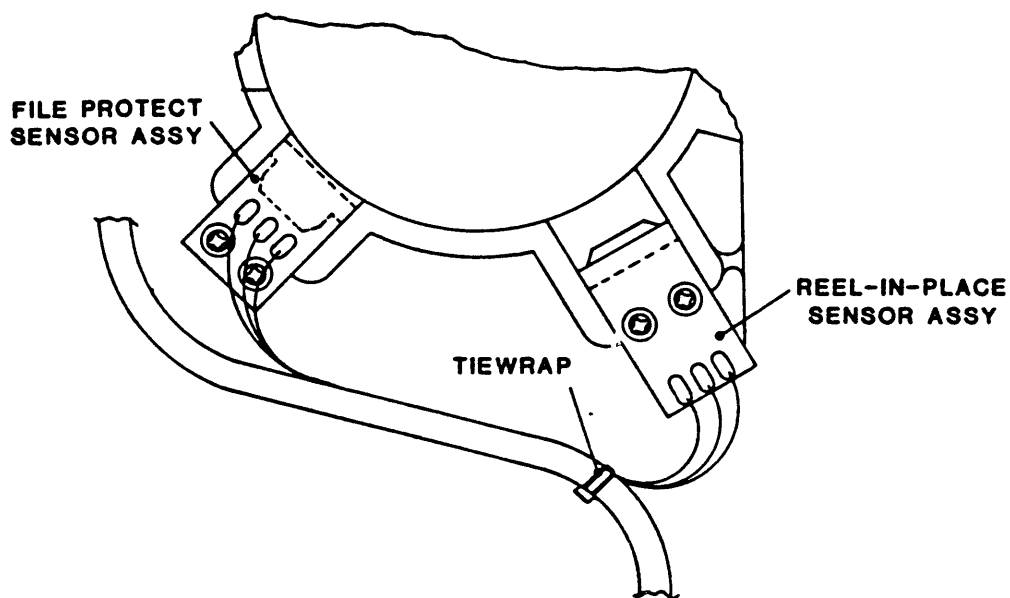

Figure 4-11 File-Protection and Reel-In-Place Sensor Assemblies
4.3.11 REEL-IN-PLACE SENSOR ASSEMBLY (Fig. 4-11)
4.3.12 FILE PROTECT SENSOR ASSEMBLY (Fig. 4-11)